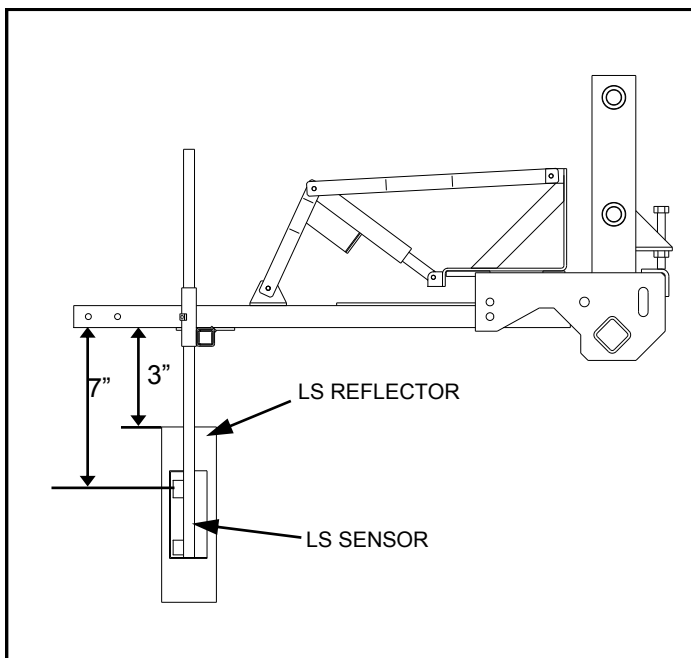

FIG 4.31
6. With a tape measure, set the center of the top Tasselrol® sensor to a depth of seven inches (fig. 4.31). Set the top edge of reflector to three inches (fig. 4.31).